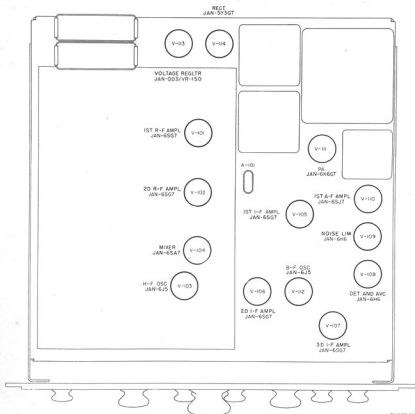

Figure 24. Tube location diagram.
a. REMOVING TUBES (fig. 24).
- (1) All tubes are accessible from the top of the chassis and are removable without further disassembly.
- (2) Using a tube puller, remove the tubes from their sockets. When removing tube V-113, open the tube clamp before pulling the tube. If a tube puller is not available for use, make sure that the tubes have cooled sufficiently; then, with the fingers, pull up the tube. Do not rock the tube or jiggle it in its socket if it can be extracted by a direct upward pull. Rock it *gently* if it does not release easily. Jiggling a tube in its socket during removal spreads the contacts. Label each tube as soon as it is removed so that it may be replaced later in its proper socket.
Replace the tubes, crystal, and pilot lamps in the receiver. Be sure that the tubes are put back in the correct sockets (fig. 24).